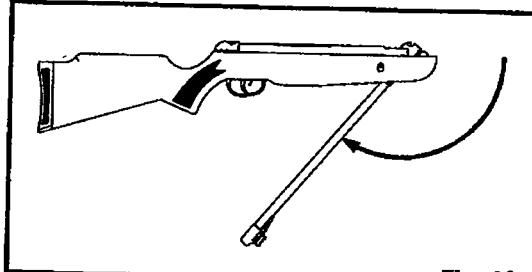

Fig. 4A -
- Pull the barrel downward until it stops (Fig. 4A). Do not pull past this point and do not use excessive force or speed.